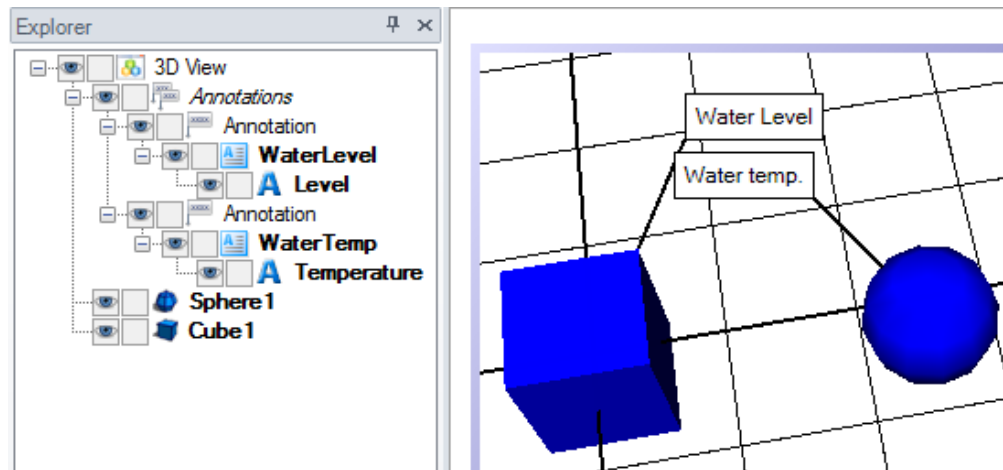

Figure 3.23 - Annotations in the Explorer
**NOTE:** Annotations appear in their own special section in the tree structure in the Explorer, and not as children of the objects they're attached to, as shown in Figure 3.23. Notice the *Annotations* branch, and that the two annotations are not part of the cube and sphere primitives in the Explorer.